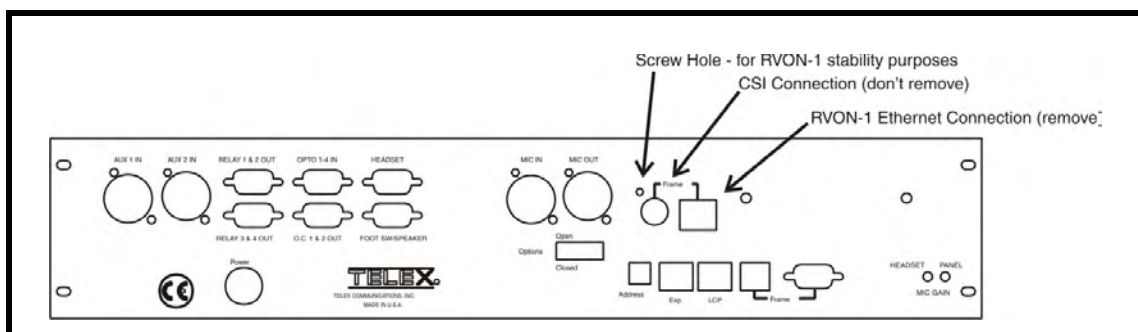

Figure 2. Knock out positions for the RVON-1 card on the KP-32
4. Using a hammer and screwdriver, remove the **specified knockout pieces**, see Figure 2..
8. Re-attach the **backplate** to the KP-32 keypanel. Be sure to secure the spacer with a screw in the back plate. See Figure 2 on page 15